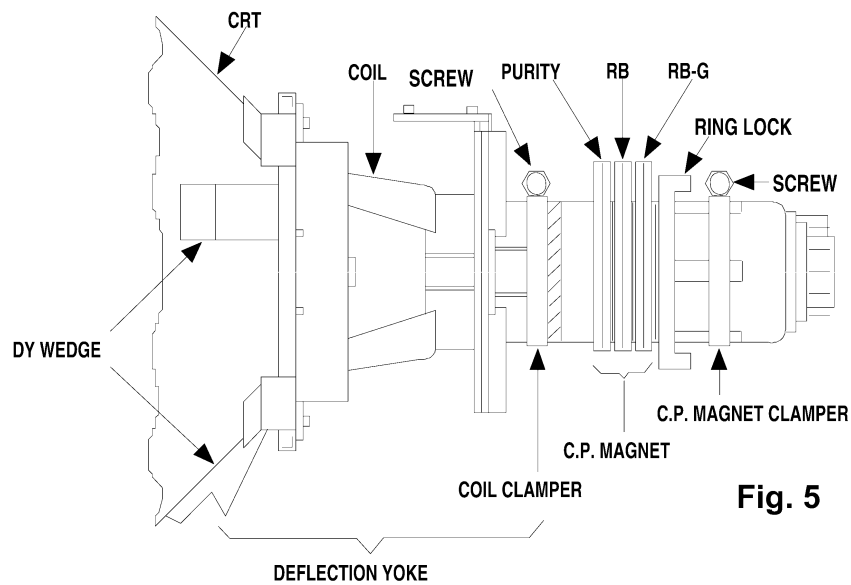

Fig. 5
4. Loosen the screw on the Deflection Yoke Clamper and pull the Deflection Yoke back away from the screen. (See Fig. 5)